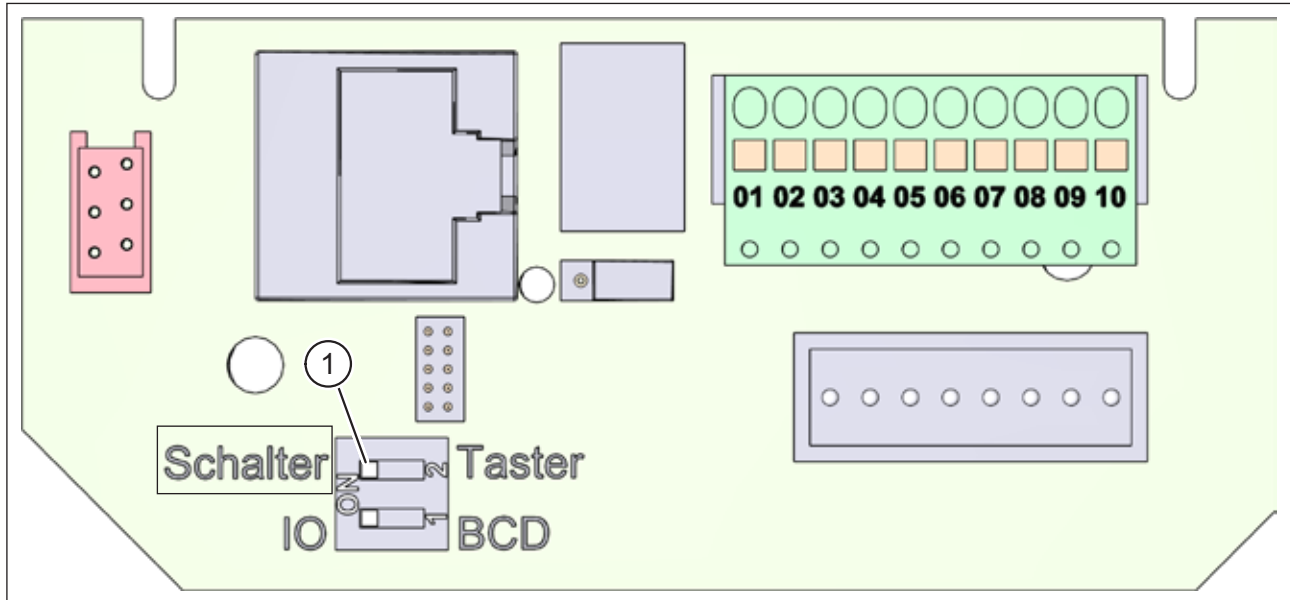

Fig. 35: Connection board in the ventilation unit with terminal assignment
DIP switch 2 (item 1 in Fig. 35) is set to the “Taster (pushbutton)” position at the factory. In association with the three-step rotary switch, DIP switch 2 must be set to the “Schalter (switch)” position.
- ▶ Set DIP switch 2 on the connection board to the “Schalter (switch)” position (see item 1 in Fig. 35 on page 54).